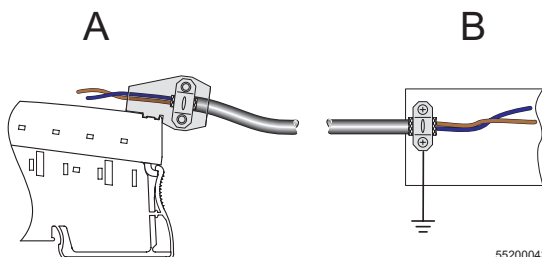

Fig. 4 Connection of sensors using a multi-wire bus cable
- Strip the outer sheath of the bus cable where required and connect the shield to the Inline terminal using the shield connection clamp of the shield connector (see A in Fig. 4).
- Lead the bus cable to the sensors (see B in Fig. 4).